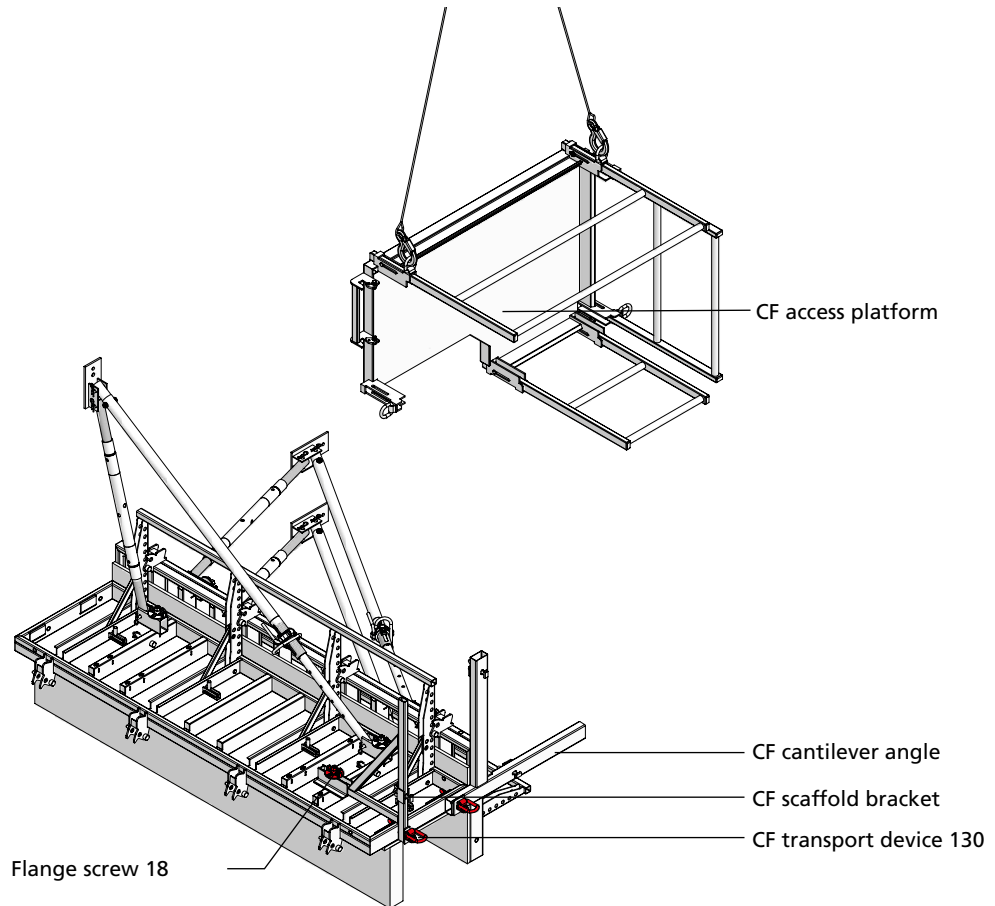

Fig. 8.1
3. Fold up the guard-railing of the access platform and attach a 2-rope crane sling to the crane eyes of the access platform (Fig. 8.1).